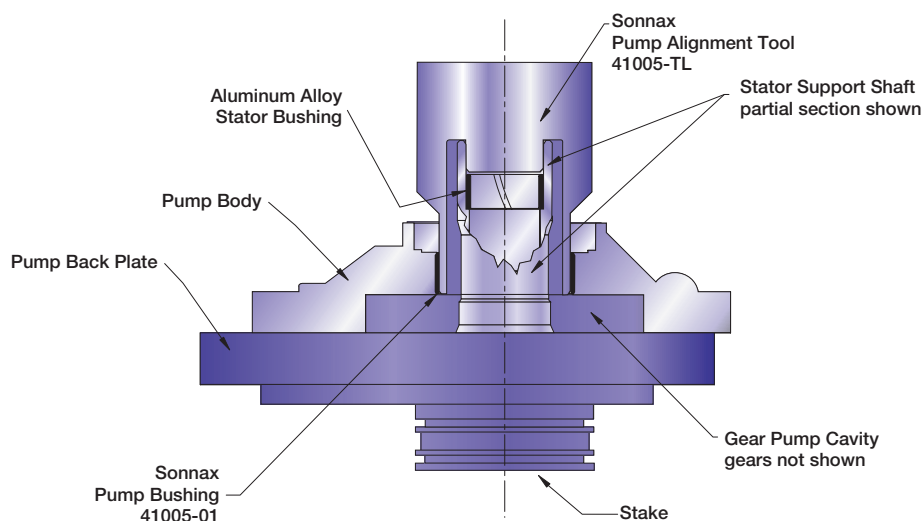

FIGURE 1
2. Lube $\frac{3}{4}$ " at the end of the smaller outside diameter of the Sonnax pump alignment tool and the first $\frac{1}{2}$ " at the inner diameter of the pump stator support shaft with a light coat of ATF or Translube™ (see Figure 1).